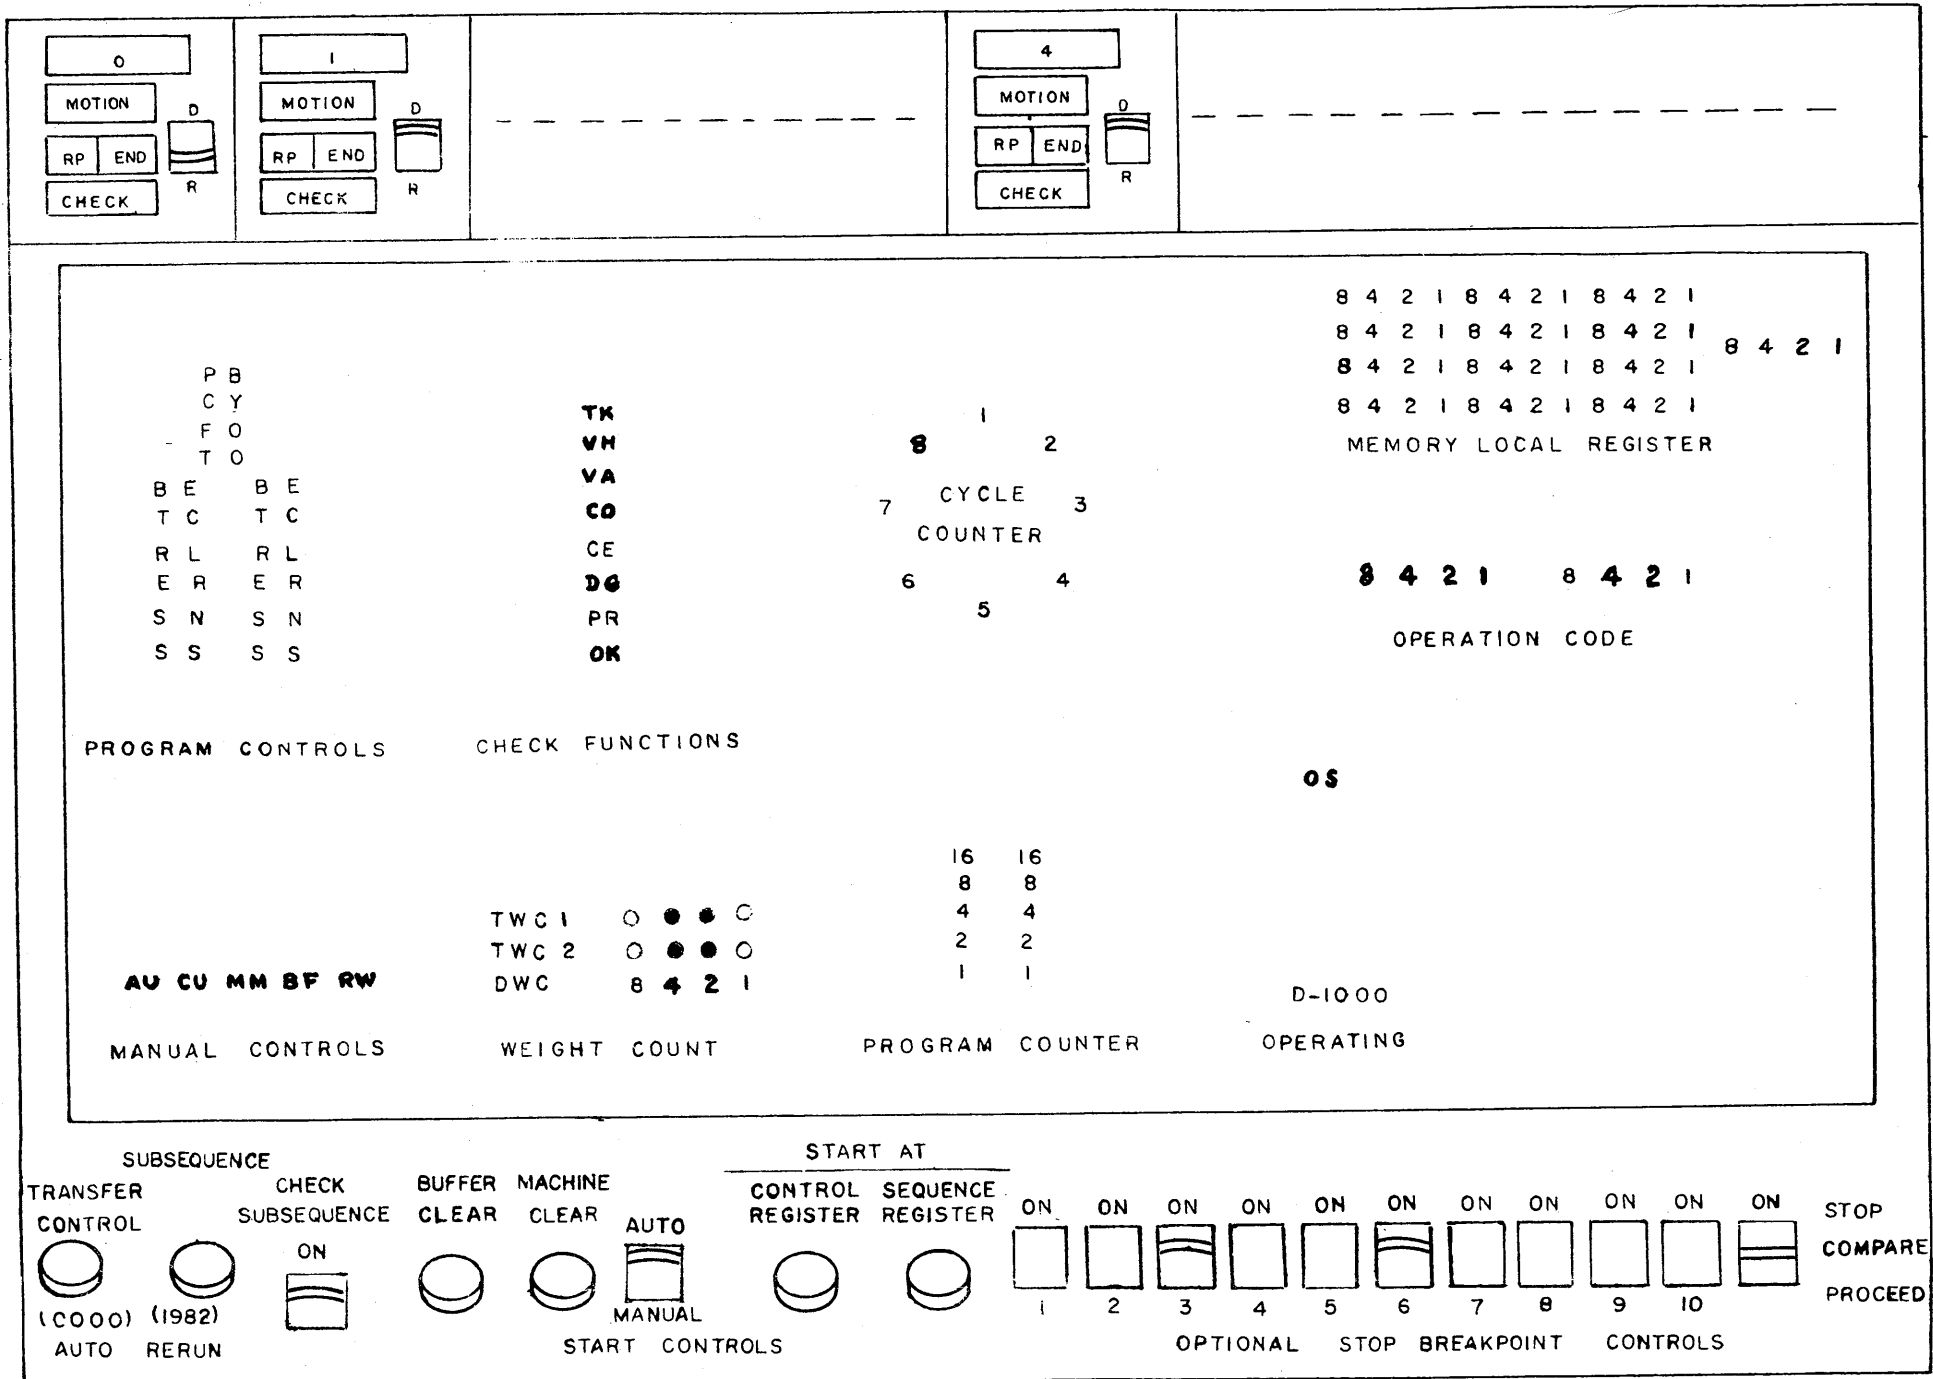

Figure 18.
Console Picture: The only significant light during this type of stop is the OS (Optional Stop) light. It will be ON only when this type of stop occurs. The OP CODE lights will also display the code (15) 6 (see Figure 18).